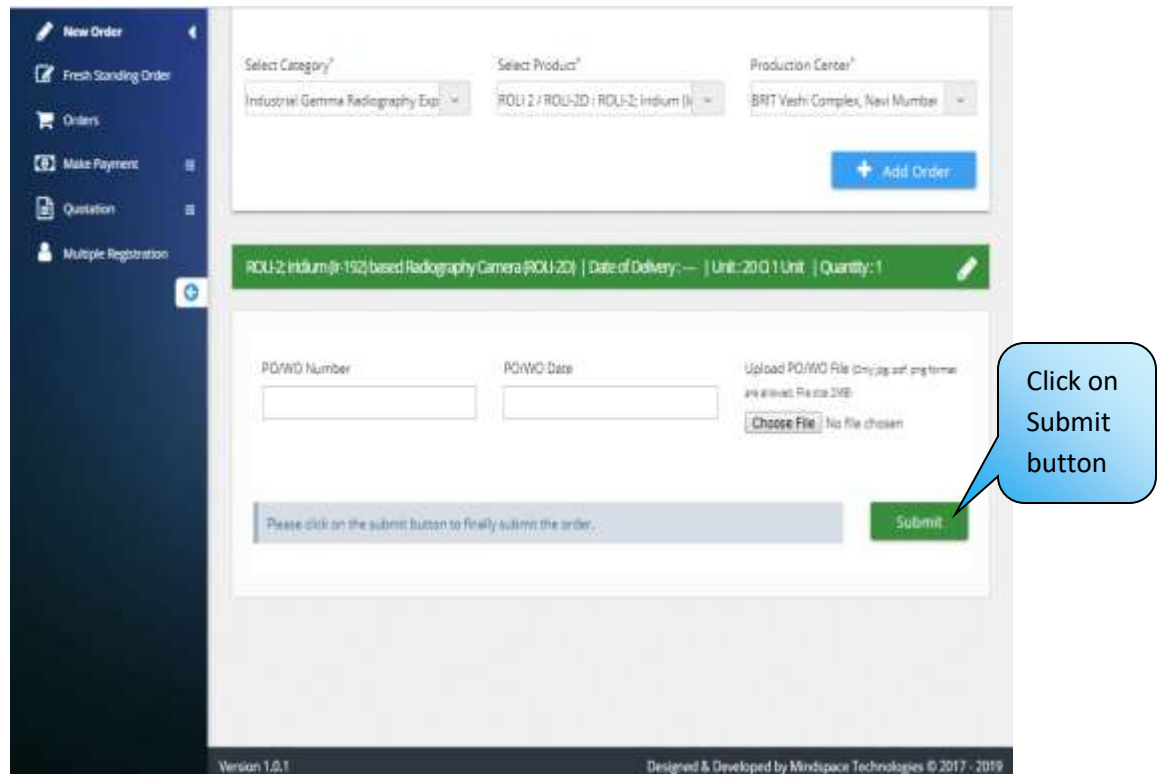

Fig. 13
Step 11: Then choose file and click on **Submit** button. (Refer Fig.13)